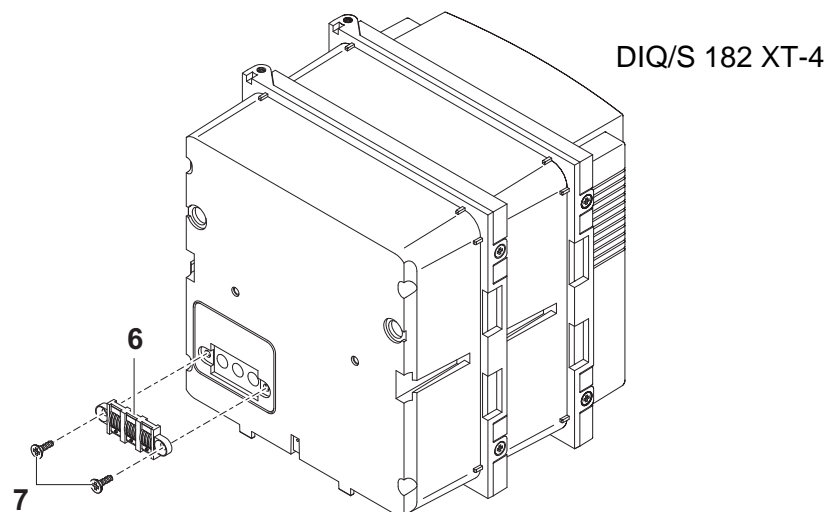

Fig. 3-8 Mounting the contact base (variant 2)
- 5 Fix the contact base (pos. 6 in Fig. 3-8) onto the DIQ/S 182-XT-4 with the two plastic self-tapping screws (pos. 7).